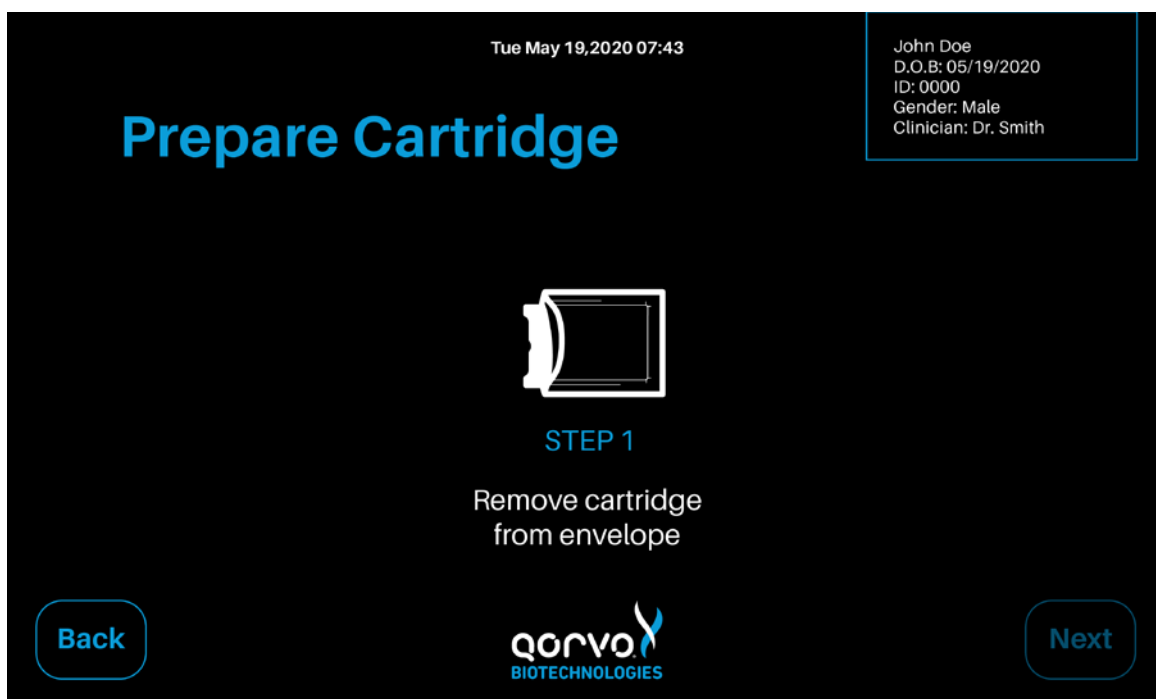

Figure 23
2. The Prepare Cartridge screen appears (Figure 23).